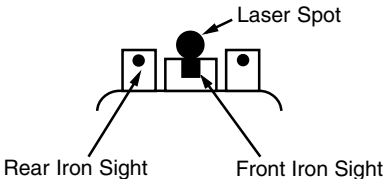

Figure 13: Iron Sights and Laser Spot
7. While aiming the pistol through the iron sights, using the adjuster tool, adjust the visible aim point of the LAM by turning the adjusters, as needed, to superimpose the beam's aiming point over the weapon's iron sight aim point. Refer to Table 2 and Figure 13 Below.